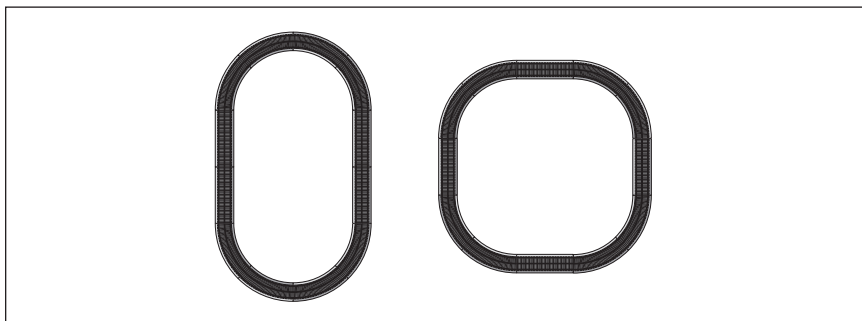

Figure 2. Track layout
**Y**our set comes with eight curved sections, three 10" straight sections, and one wall-pack terminal section of track. Figure 2 shows the oval layout that you can build with these track sections. You may choose to add more FasTrack track sections to create an endless number of exciting track arrangements for more fun, action, and variety.